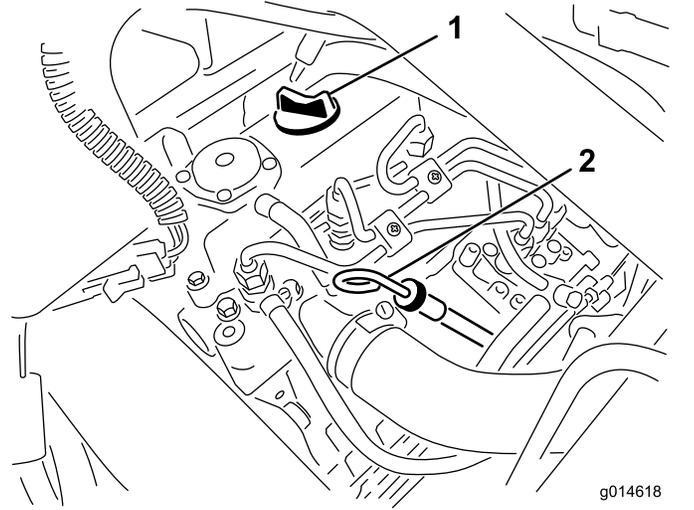

Figure 29
2. Remove the dipstick and wipe it with a clean rag (Figure 29).